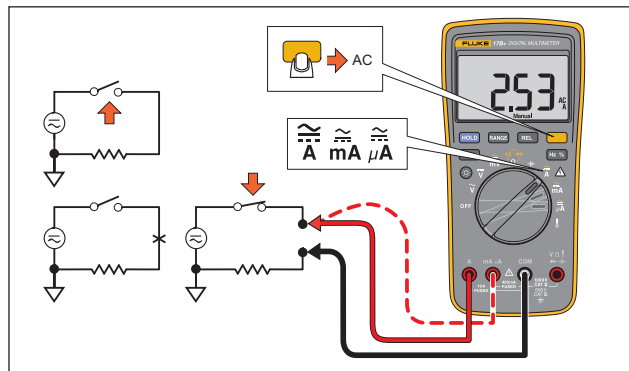

Figure 2. Measure AC and DC Current
3. Connect the red test lead to the **A or mA μA** terminal based on the current to be measured and connect the black test lead to the **COM** terminal. See Figure 2.